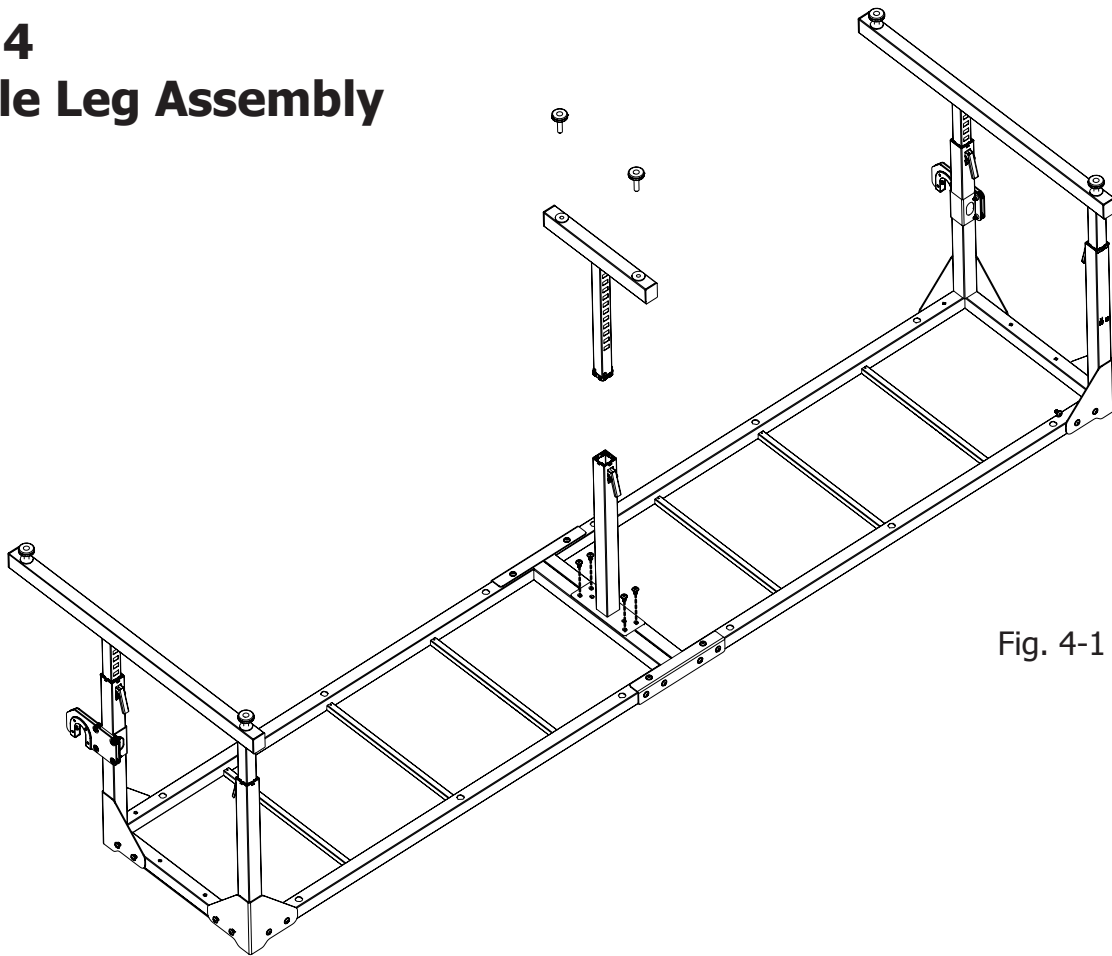

Fig. 4-1
**4-1:** Place the upper middle leg on the center of the table assembly and thread an M8x16mm QF09318-07 into each corner of the mounting plate. (**Fig. 4-1** and **Detail 4-1**) Fully tighten each screw with the 5mm Allen wrench.